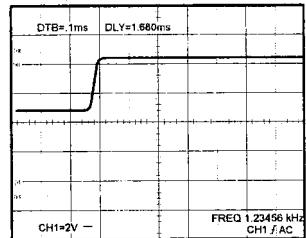

Figure 5-10 Delay Mode
- Set the DELAY mode to measure the magnified waveform only by pressing the MAIN/ALT/DELAY button. The magnified waveform shown in figure 5-10.